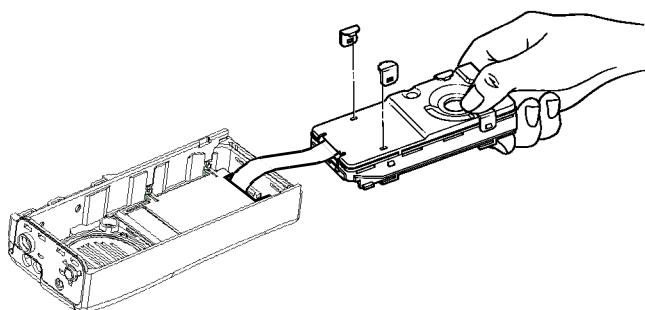

Figure 1-15. Place Chassis Opposite of Front Housing
- Place the chassis assembly and front housing assembly on a flat surface with the top face of housing in a reverse and opposite direction (Figure 1-15)